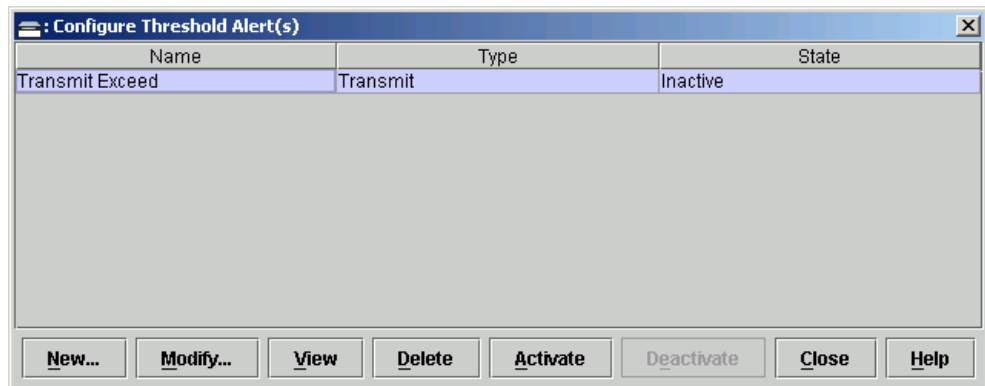

Figure 2-95 Configure Threshold Alert(s) Dialog Box
1. At the *Hardware View*, select *Threshold Alerts* from the *Configure* menu. The *Configure Threshold Alert(s)* dialog box displays (Figure 2-95).
12. Click *Finish*. The *Configure Threshold Alerts* dialog box reappears (Figure 2-95 on page 2-105) listing the name, type, and state of the alert configured.